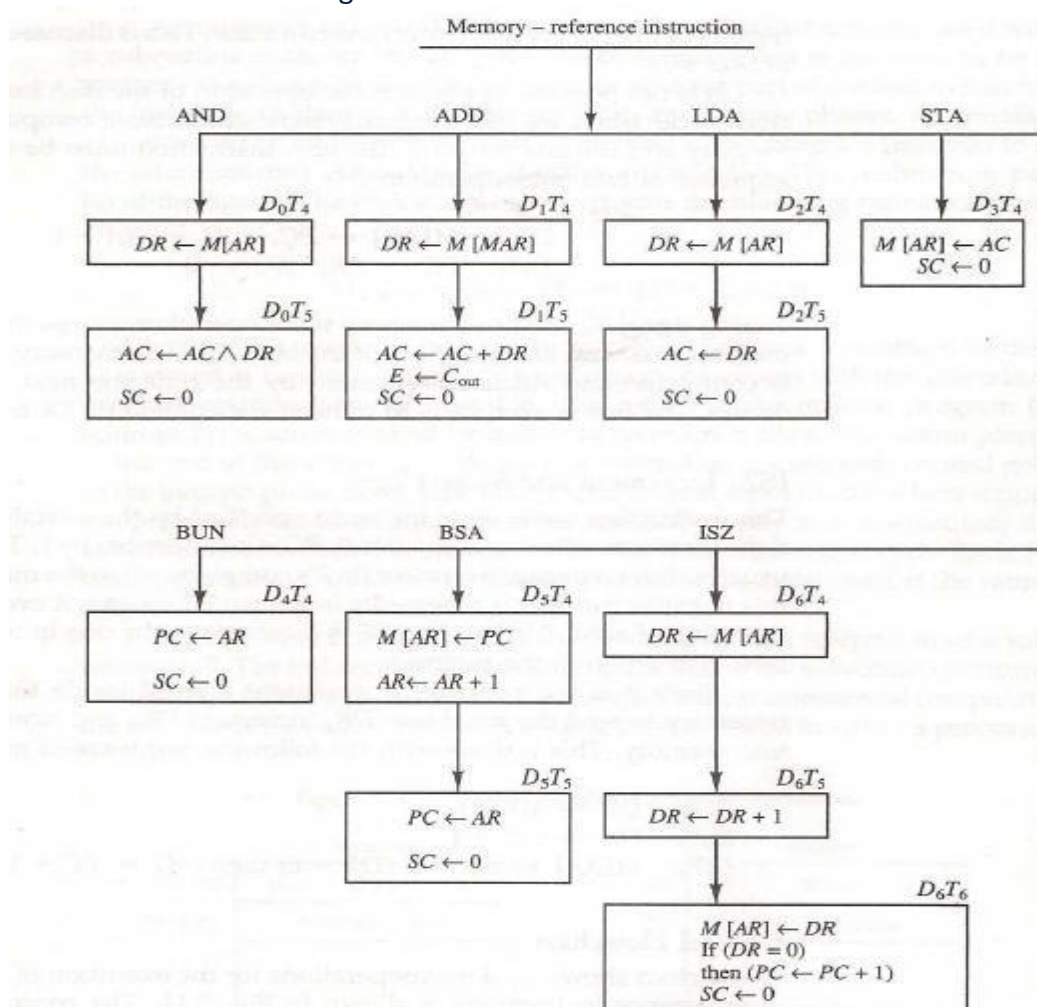

Figure 5-11 Flowchart for memory-reference instructions.
- A flowchart showing all microoperations for the execution of the seven memory-reference instructions is shown in Fig. 5.11.